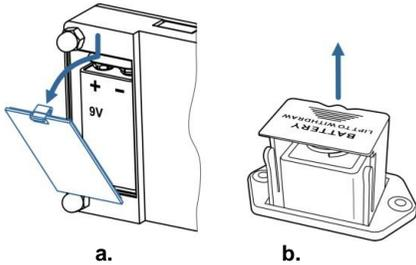

Fig. 5.1
- Turn the handle (2) clockwise to the right within 5 seconds.
- Remove the battery from the contacts and replace the battery on the inside of the door (see Fig. 5.1).